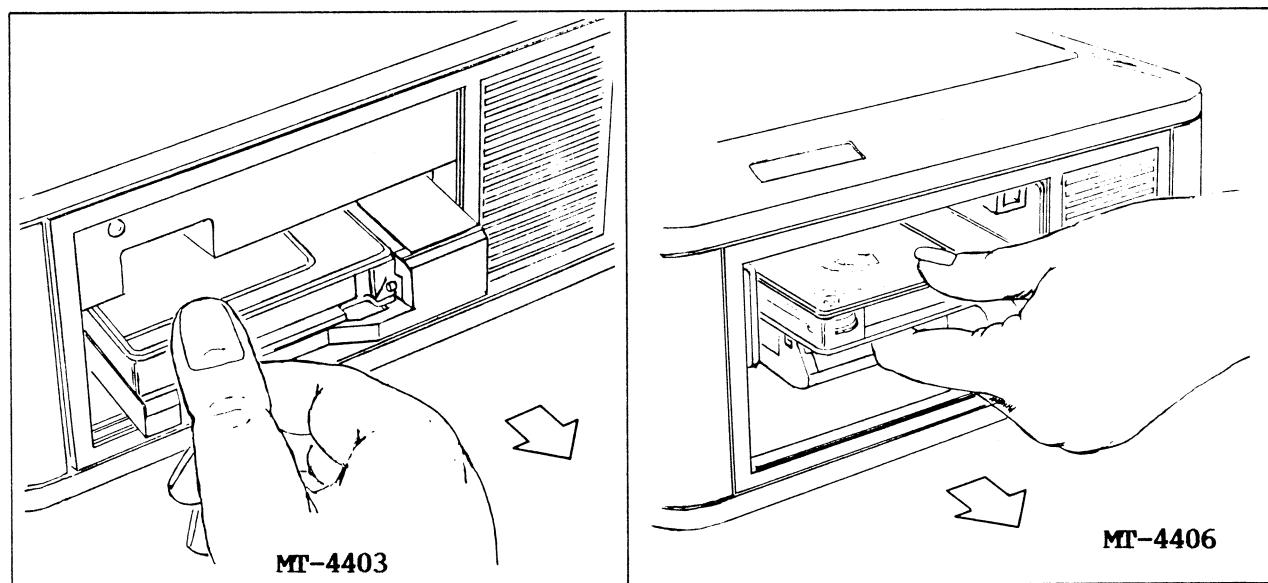

Figure 3-6. Inserting the MTCS Tape Cartridge
3. MT-4403/MT-4406. Insert the tape cartridge, as shown in figure 3-6.